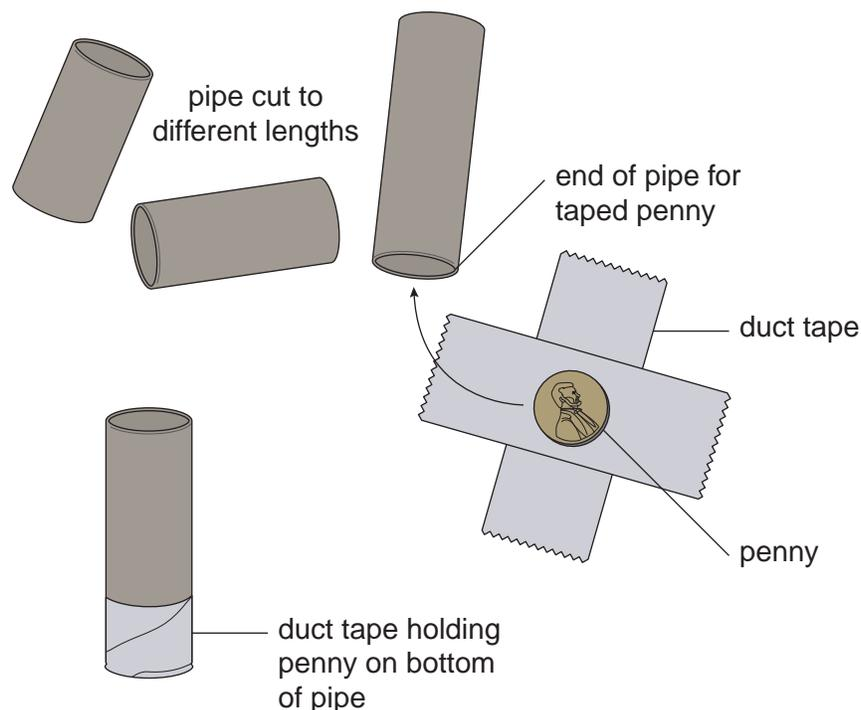

Figure 1
3. Place a penny over one end of a section of pipe and secure it in place with duct tape. Wrap enough tape around it to make a good seal (Figure 1).